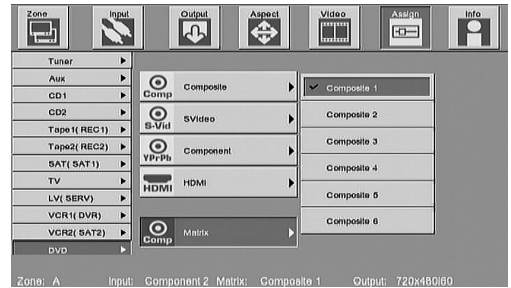

Figure 11
- Press the SELECT Push-button and a ✓ check mark will appear to the left of the title name to indicate the selection is entered into memory. Refer to figure 11.